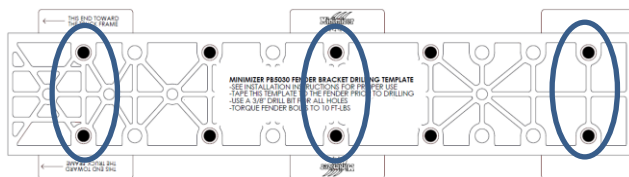

Figure 13
- i. For MIN100, MIN150, MIN2200, MIN221800, MIN2260, MIN2480 & MIN9950 fenders use the 6 bolt holes circled in Figure 13.